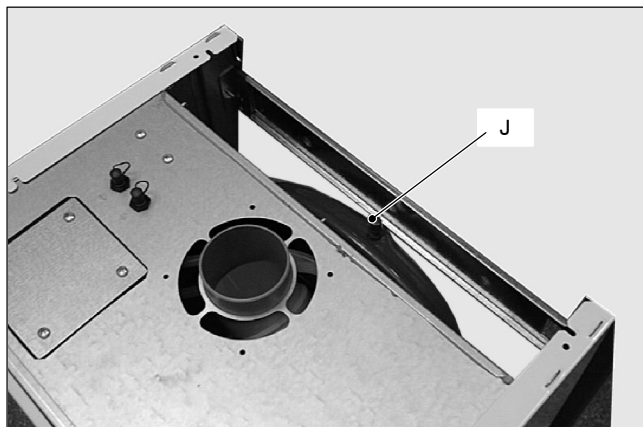

Fig. 51
- 2 Remove the protective cap J (Fig. 51) from the valve on the top of the expansion vessel and connect a suitable air pressure gauge.